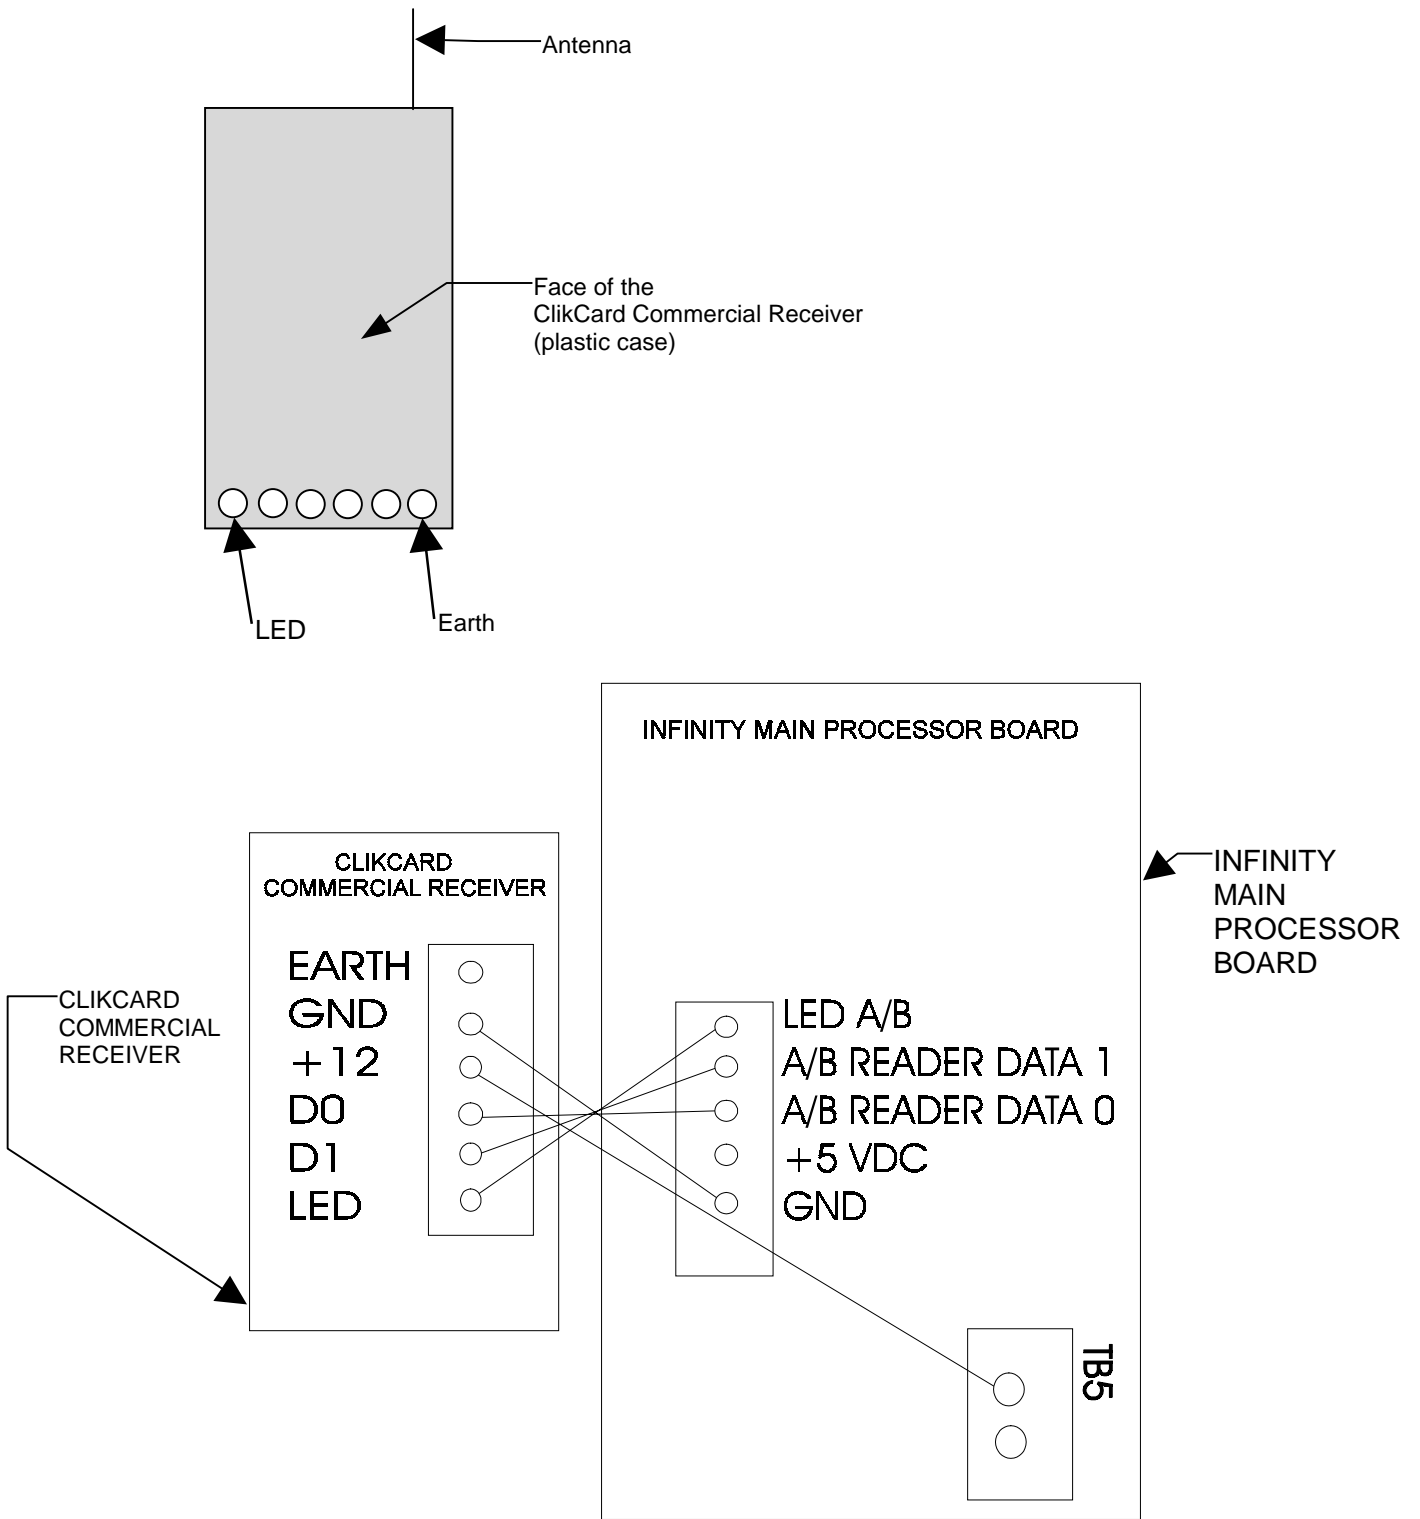

FIGURE 1
2. Connect the wires to the 6 pin connector according to the following color scheme if possible. (See figure 1.)